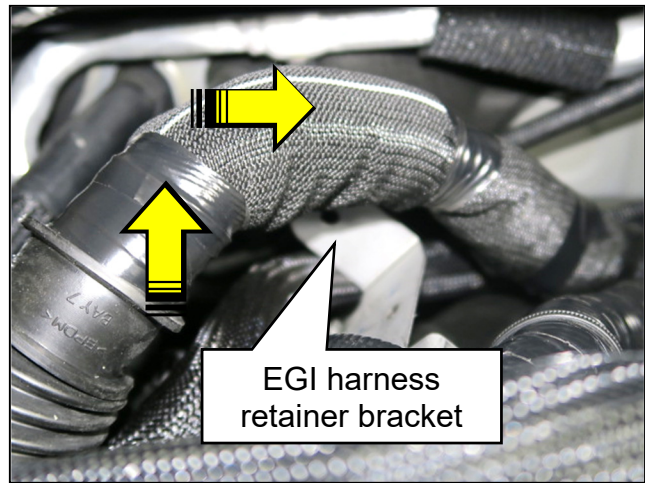

Figure 7
7. Lift the harness over the harness retainer bracket, as shown in Figure 7, and move the harness toward the front of the vehicle.